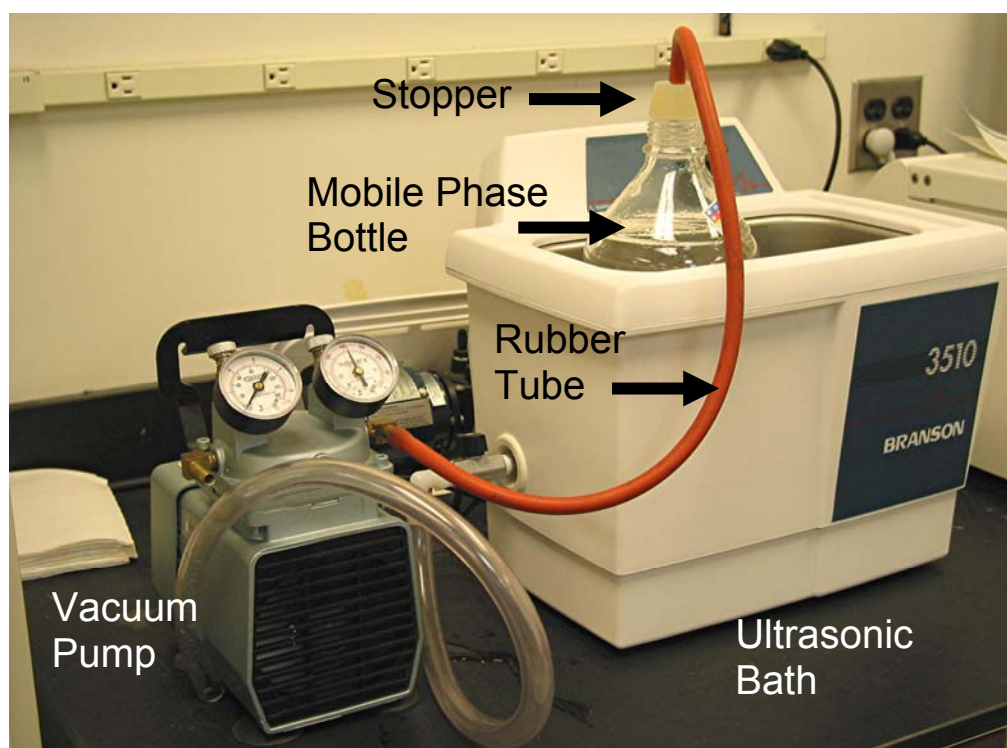

Figure 2-18: Degassing Apparatus
- a) Setup degassing apparatus as shown in Figure 2-18.